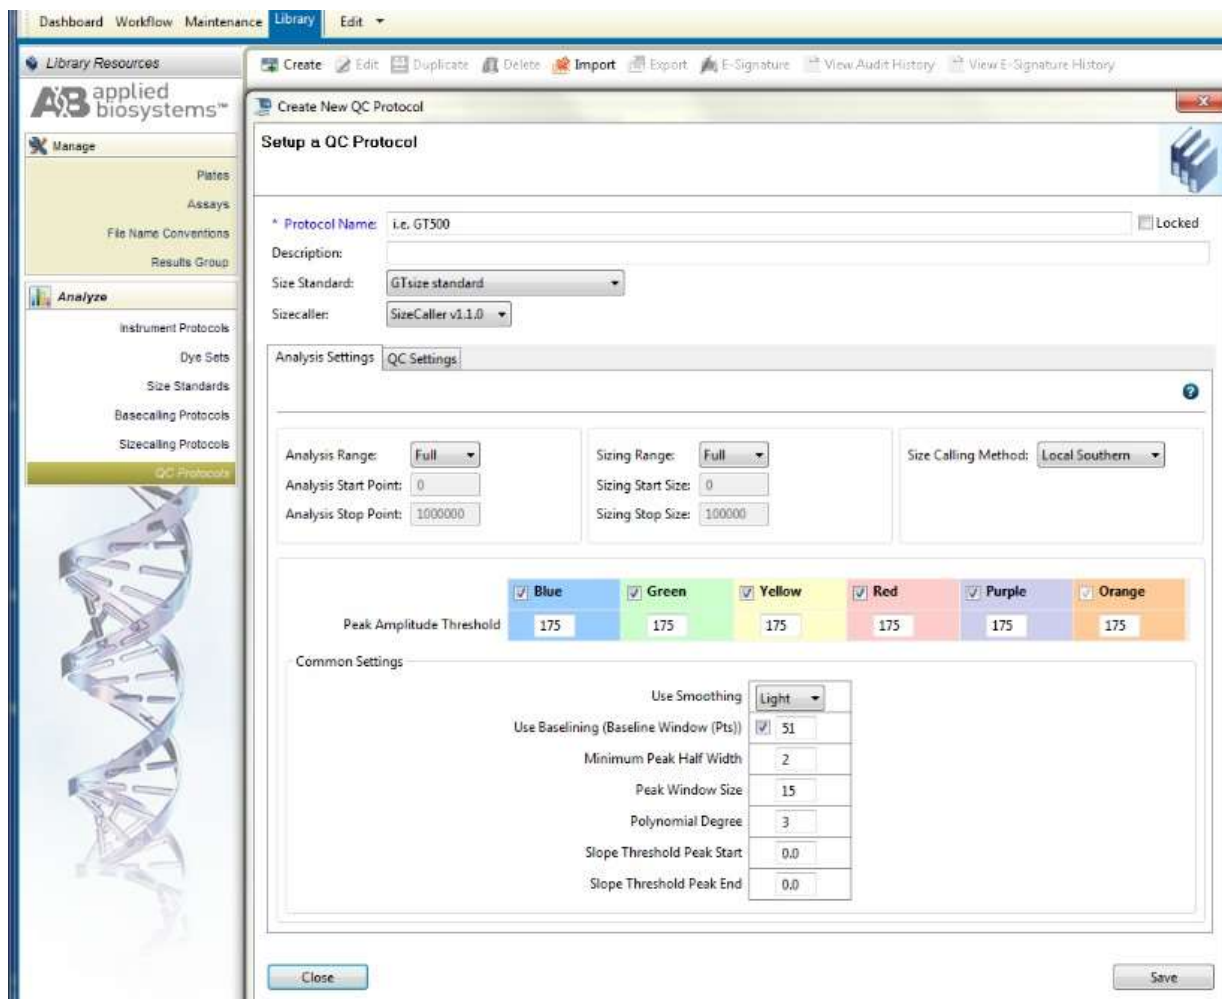

Figure 7. Screenshot for the “Create New QC Protocol” window on Applied Biosystems 3500 Data Collection software
- c) Select “*Create*” (Figure 7)